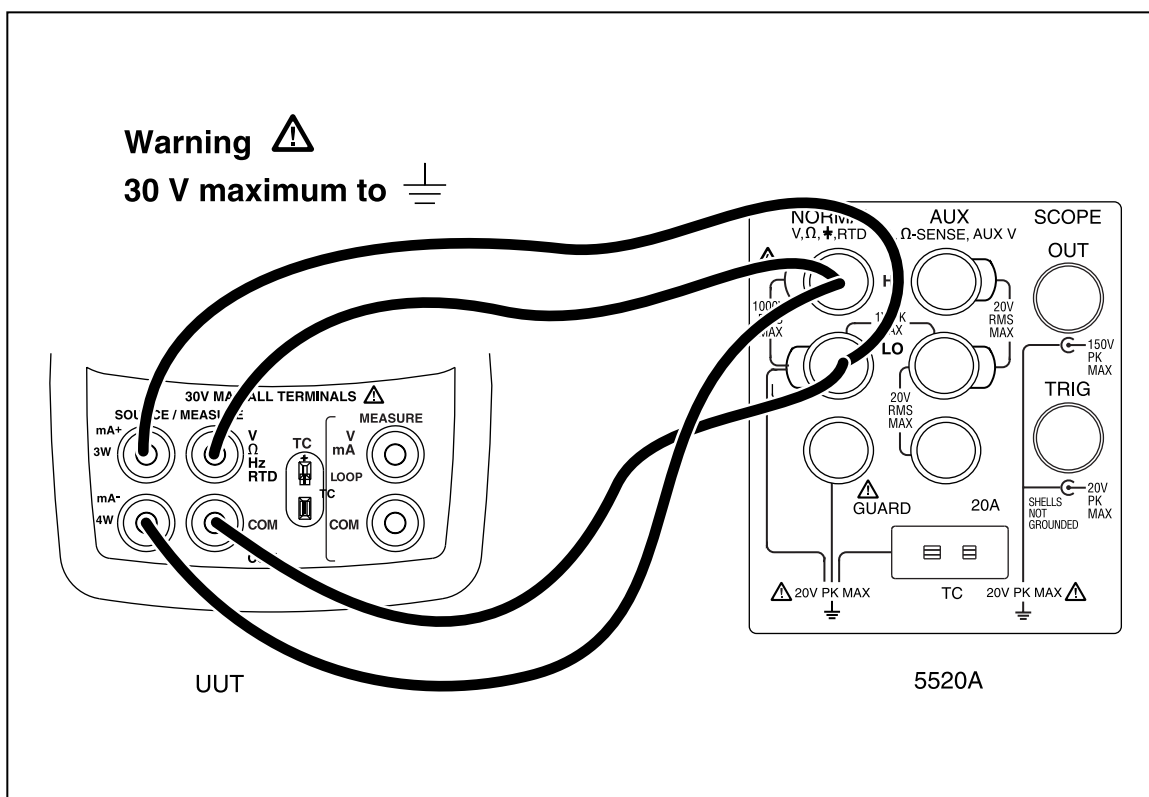

Figure 8. Lower Display 4-Wire Resistance Test Connections
2. Set the 5520A to 2-wire output with 2-wire compensation off; then make the connections shown in Figure 8.